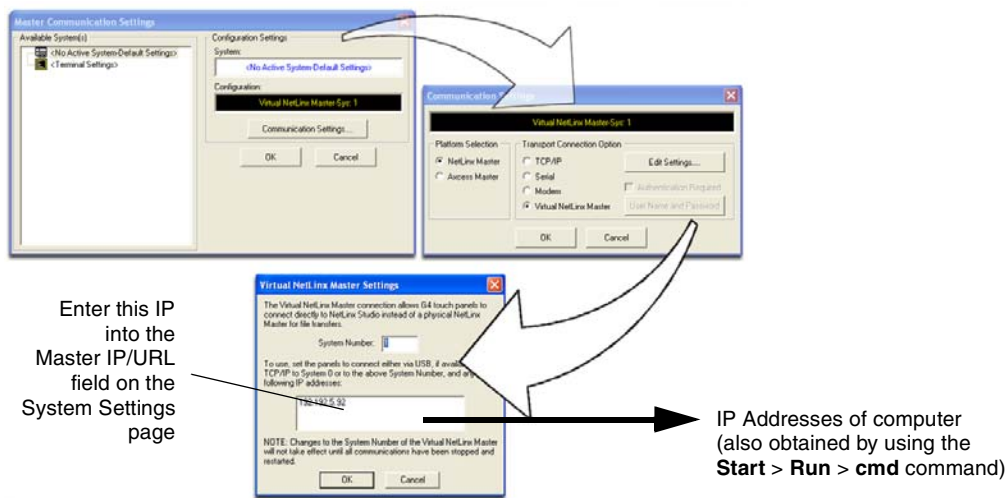

FIG. 64 Assigning Communication Settings and TCP/IP Settings for a Virtual Master
3. Select **Settings > Master Communication Settings**, from the Main menu to open the Master Communication Settings dialog (FIG. 64).
7. Click the **Edit Settings** button (on the *Communications Settings* dialog) to open the Virtual NetLinx Master Settings dialog (FIG. 64).